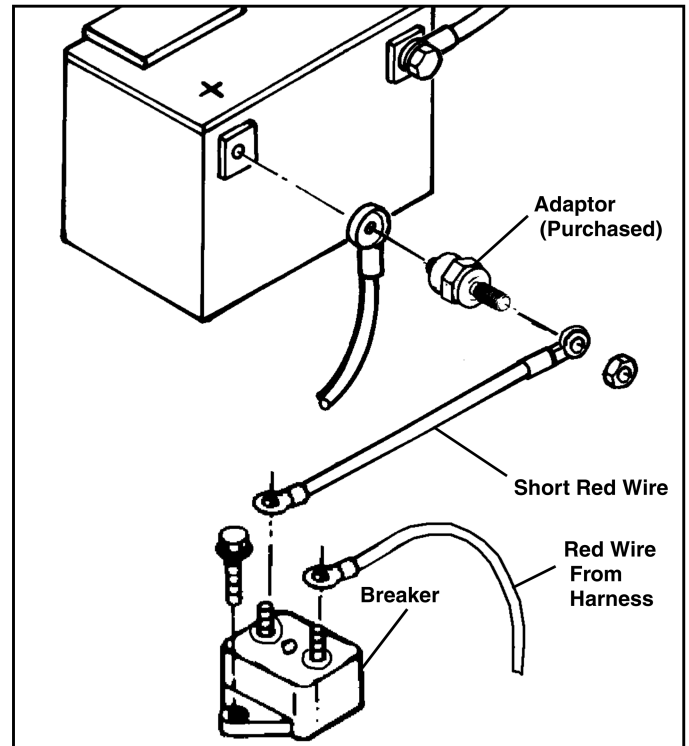

Figure 1-6
*NOTE: If the vehicle has a "side post" battery, it will be necessary to install adaptors (#96100773) to make connections at the vehicle battery (See Figure 1-6).*
18. Mount the circuit breaker with two (2) #10 x 1" self-tapping screws (#98100037).